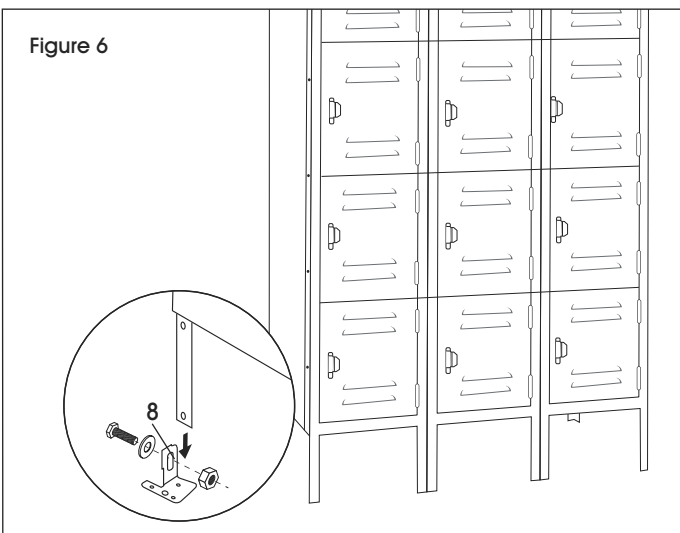

Figure 6
1. If joining a 3-wide unit beside another unit, temporarily install a bolt and nut into the third and sixth holes down from the top of the outer frame(s) that will be joined to the adjacent locker frame(s). (See Figure 6)
2. Use supplied leveling feet and hardware (8) to level the unit. (See Figure 6)